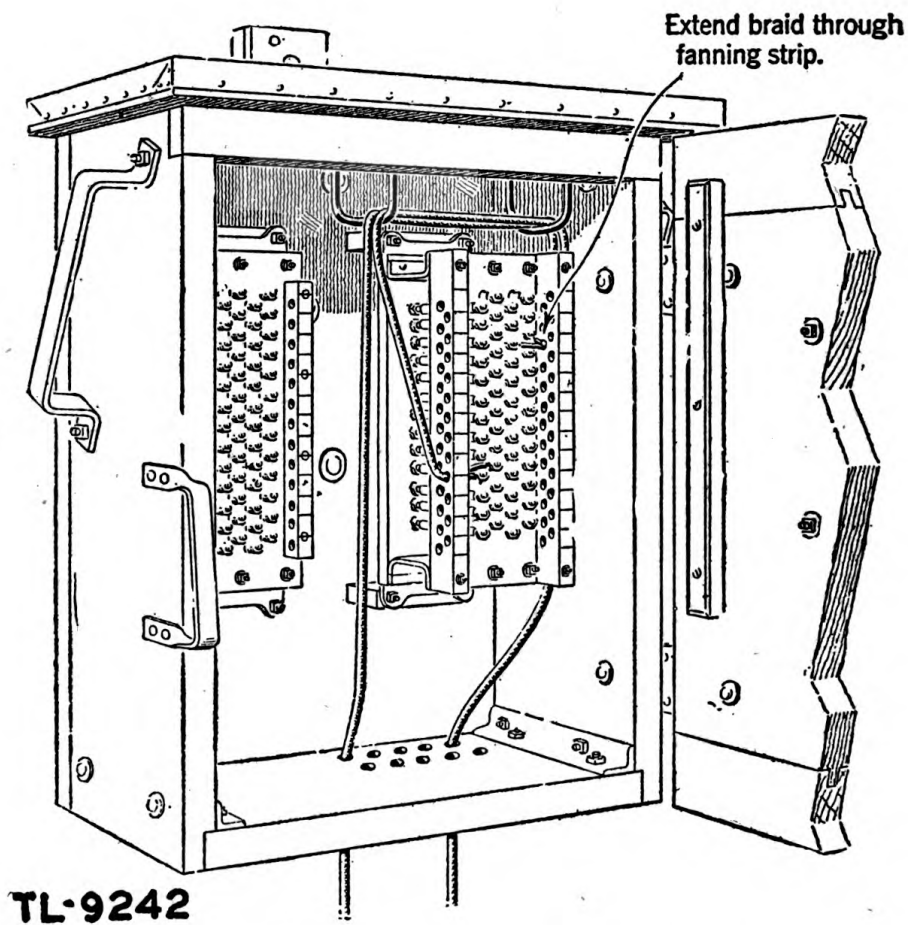

Figure 47. Wiring at "B"-type cable terminal.
(4) Figure 47 shows wiring at a "B"-type cable terminal.